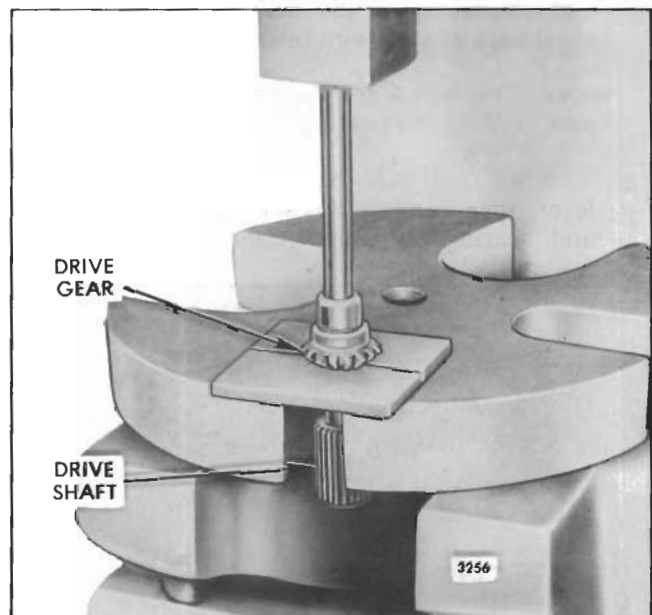

Fig. 14 - Removing Drive Gear from Drive Shaft
- c. Place two split brass plates beneath the teeth of the drive gear, then support the assembly on the bed of an arbor press (Fig. 14). Place a brass rod on the end of the drive shaft, then press the drive shaft from the drive gear. Catch the drive shaft by hand when pressed from the drive gear.